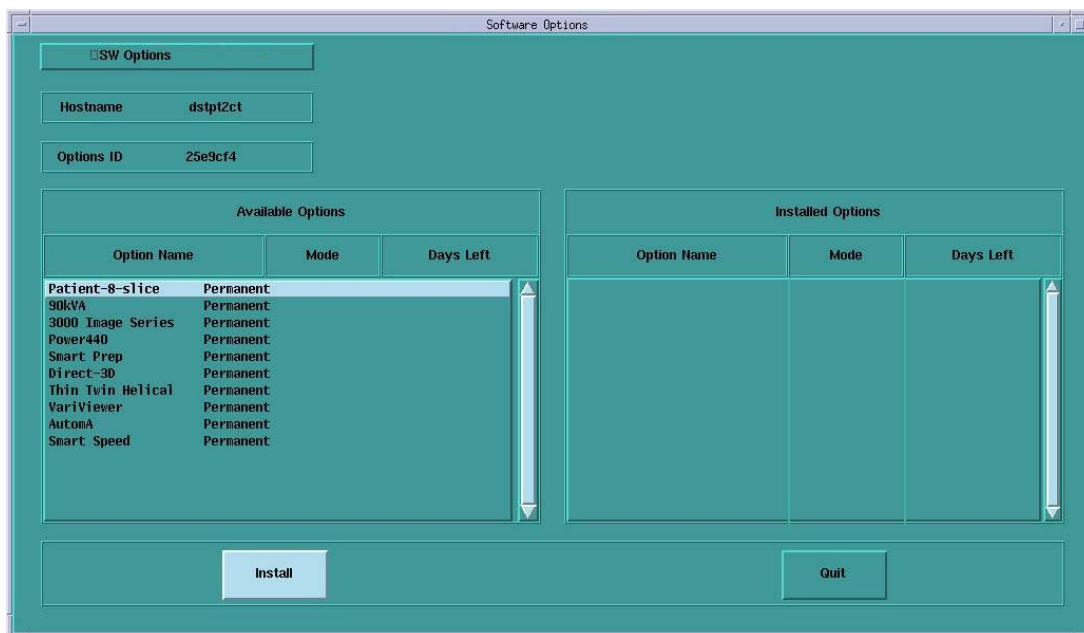

Figure 5-13 Software Options screen
- 10.) Insert the options DVD into the DVD drive and click on OK. (If you do not have an options DVD, click on OK anyway, wait for the abort pop up, then abort the process.) Available options on the DVD appear on the **Software Options** window. (See Figure 5-13.)